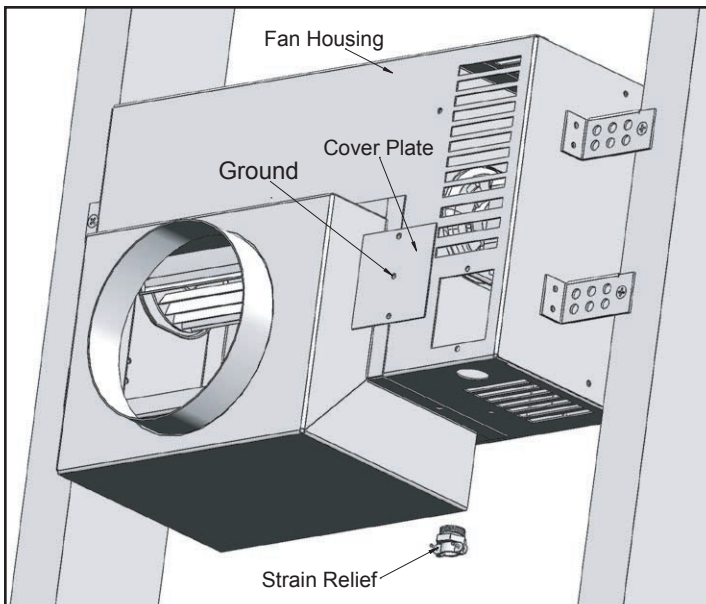

Figure 8: Wiring fan.
6. Wire the fan (refer to Figure 8)